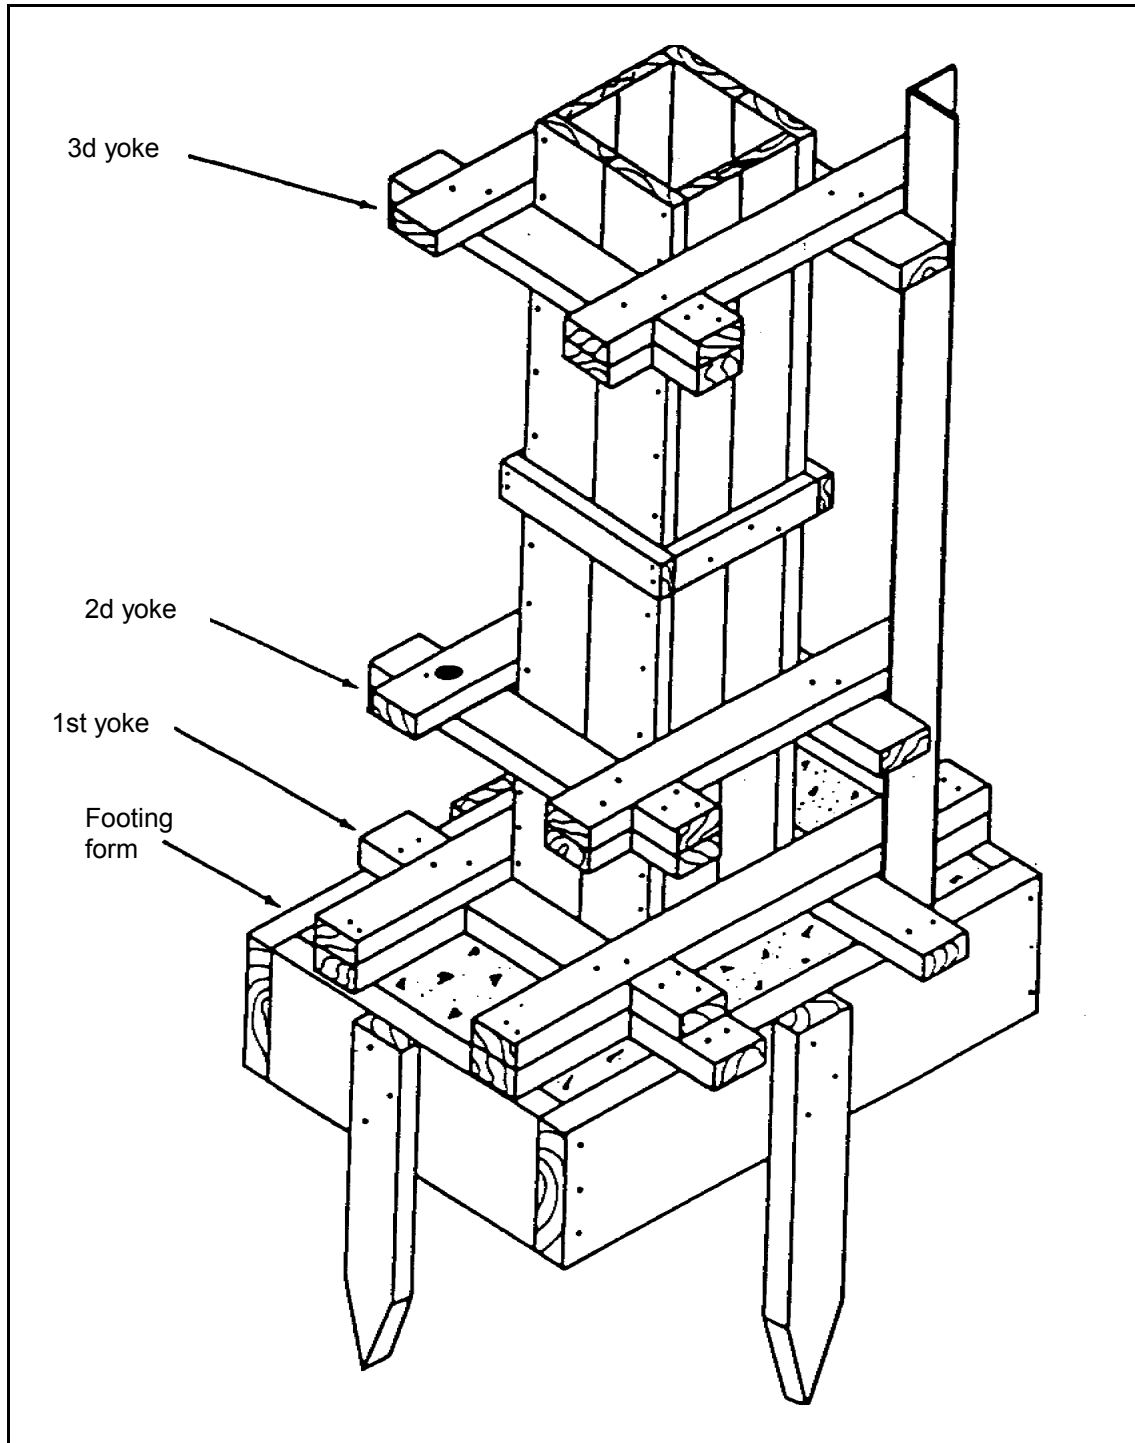

Figure 2. Placement of the First Yoke
**Step 1.** Change the height of the column from feet to inches by multiplying the number of feet times 12. The product is the height of the column in inches which will be used in step 3b. The first yoke is always placed at the base of the column, flush with the top of the footing form (*Figure 2*).